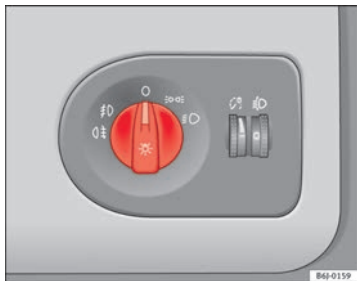

Fig. 54 Detailed view of the dash panel: lights, fog lights and rear fog light switch
- Turn the light switch \Rightarrow fig. 54 to position \Rightarrow .